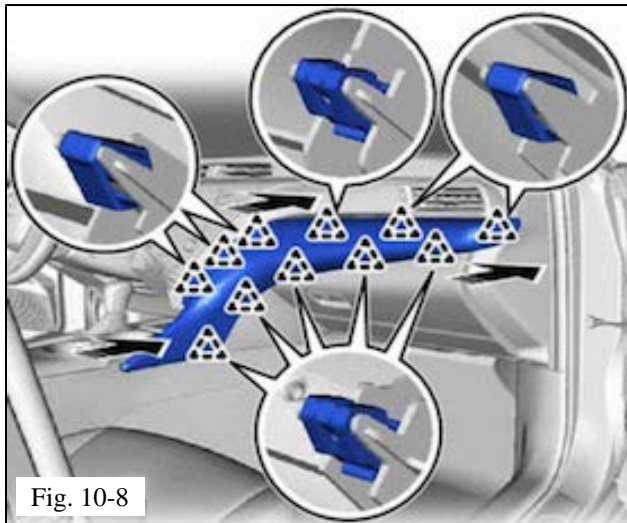

Fig. 10-8
(1) Engage the 11 clips to install the No. 2 instrument panel garnish sub-assembly as shown (Fig 10-8).